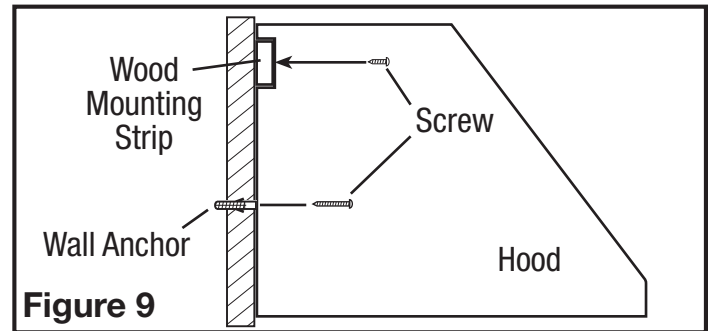

Figure 9
- Rest the cavity in the back side of the hood on the wood strip and secure hood to wood strip with the included 3/4" screws through the holes in the back of the hood that line up with the wood strip (use 6 screws for 30" and 36" widths and 8 screws for larger widths). Secure the bottom of the hood by installing the screws provided into the wall anchors (Figure 9).